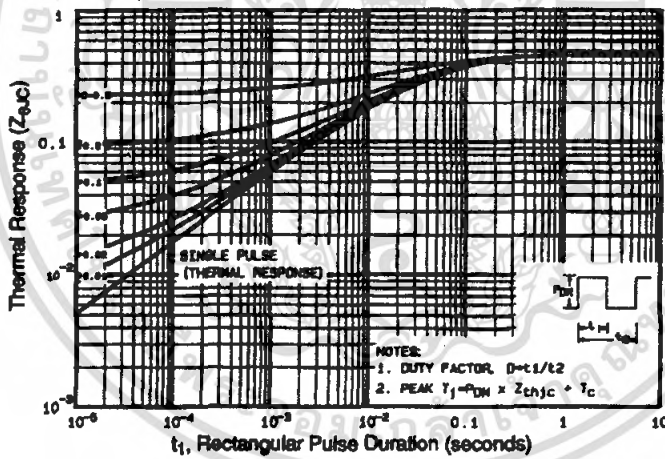

Fig 11. Maximum Effective Transient Thermal Impedance, Junction-to-Case
- ① Repetitive rating; pulse width limited by max. junction temperature (See Figure 11)
- ② $I_{SD} \leq 20A, di/dt \leq 180A/\mu s, V_{DD} \leq V_{(BR)DSS}, T_J \leq 150^\circ\text{C}$